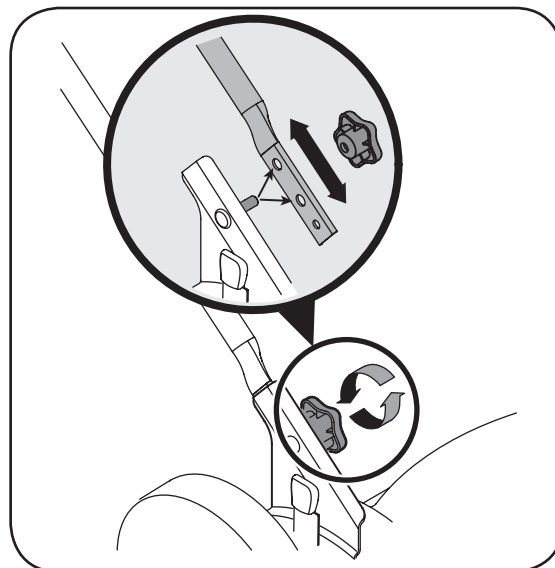

Figure 3-3: Secure lower handle to mounting brackets.
- a. Position each handle bracket stud into the top or bottom hole in the lower handle. See Figure 3-3.